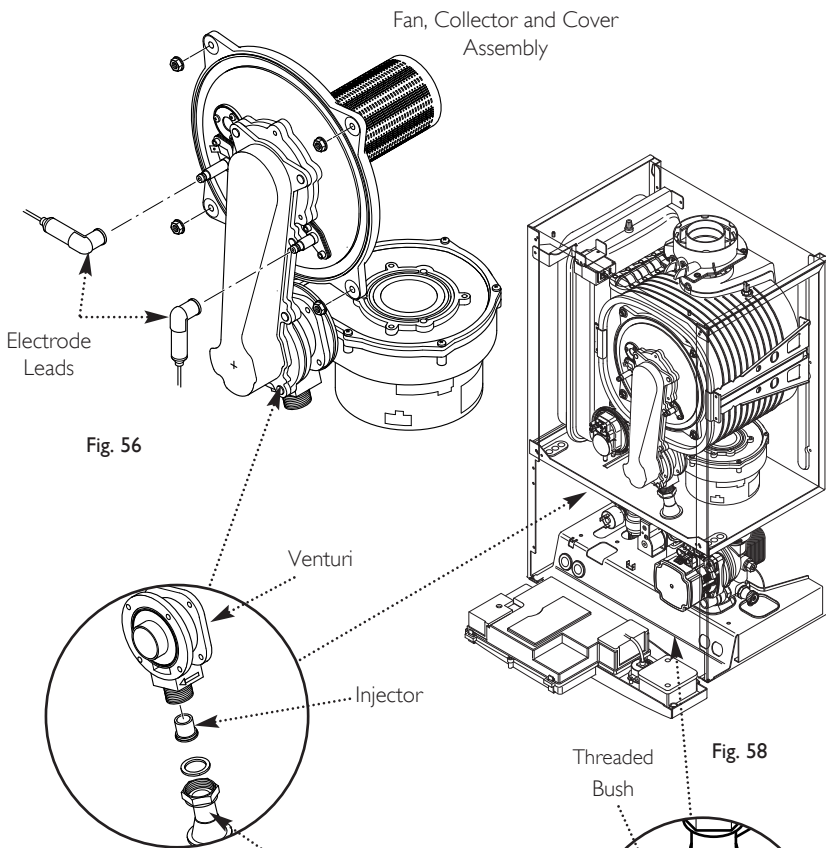

Fig. 56
9. Carefully draw the fan, collector, air pressure switch and cover assembly forward, being careful to retain the injector in the venturi (Figs. 56 & 57).